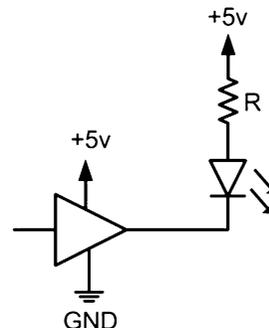

Fig. 3.42
3.4.5 For the LED driver configuration shown in Fig. 3.42 where an output of LOW on the driver will turn on the LED, calculate the value of the resistor (R) in order to set the LED forward current to 5 mA. The LED has a forward voltage of 1.9v.